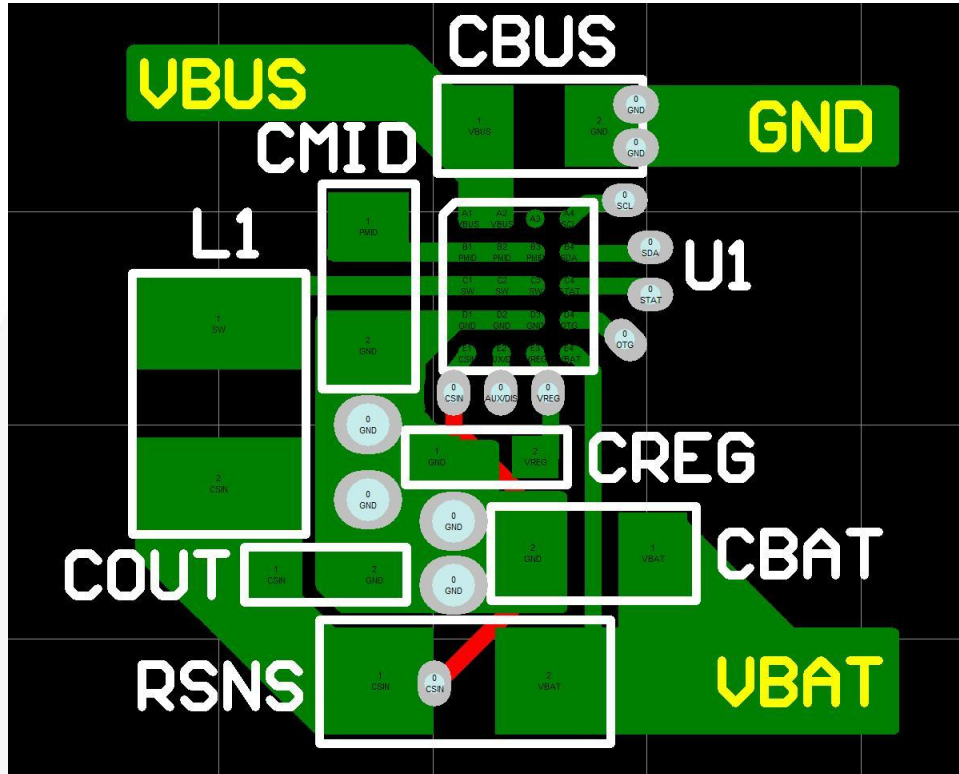

Figure 48. PCB Layout Recommendations
**Table 21. Bit Definitions for Figure 46, Figure 47, and Figure 48**